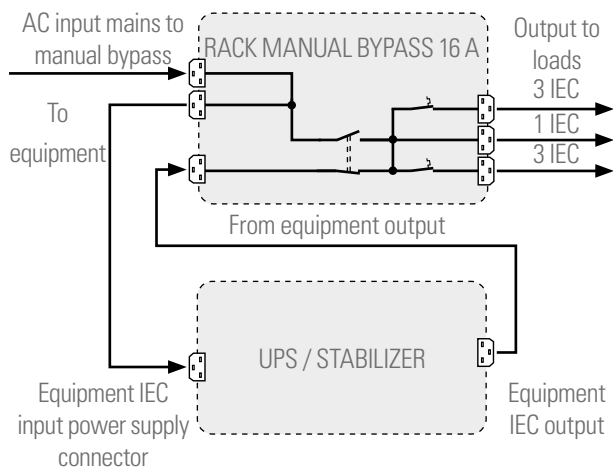

Fig. 3. Wiring between the UPS and the 3 kVA bypass.
- In correlation with Fig. 1 and 2, Fig 3 and 4 illustrations show the single line diagrams of both structures.